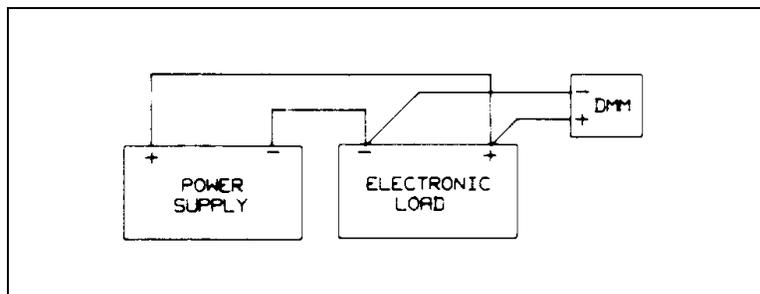

Figure 2-2. Test Setup B
- a. Connect the Electronic Load, power supply (Agilent 6030A in series with Agilent 6032A or equivalent), and DMM as shown in Figure 2-2. Take care in making connections so that contact resistance voltage drop will not affect the readings.
- a. Connect the Electronic Load and the power source as shown in Figure 2-2.